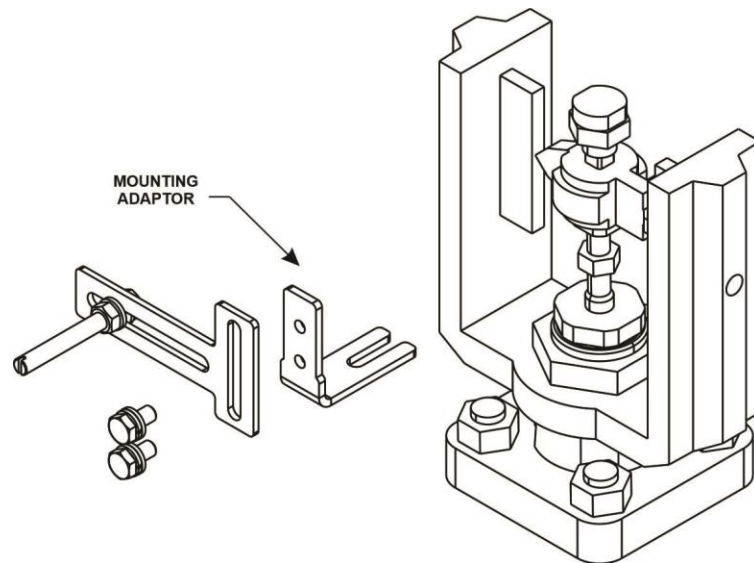

Figure 1.9 – Feedback assembly mounted on mounting adaptor
3. If required, a mounting adaptor is included in the mounting kit. Attach the mounting adaptor to the actuator stem so that the mounting adaptor extends through the yoke leg, then attach the slotted bracket to the adaptor, as shown in figure 1.9. The feedback pin must be on the opposite side of the stem.